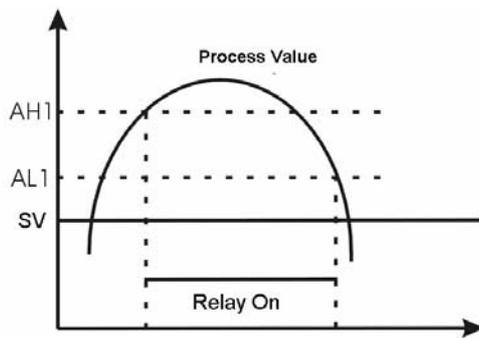

Figure 4
- ① When AH1=AL1, relay is disabled,
- ② AH1 > AL1 is for absolute high alarm. See fig. 4.